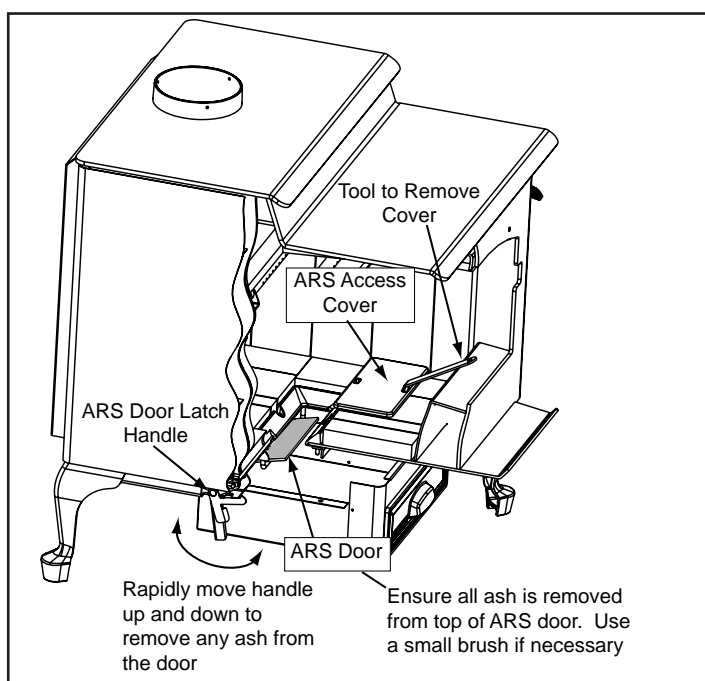

Figure 17.2
3. Remove the 2 nuts and 2 bolts holding the ash grate channel in place and set the channel aside. Discard the 2 nuts. Install the gasket over the 8 protruding screws. **Figure 17.2.**
Slide the ash door over the 8 screws protruding from the bottom of the stove. Secure with nuts and washers provided. **Figure 17.2.**
6. Install magnet using a Phillips head screwdriver. This magnet will hold the door handle in an open position which in turn holds the ash door open so ashes can be brushed into the ash drawer. **Figure 17.2.**